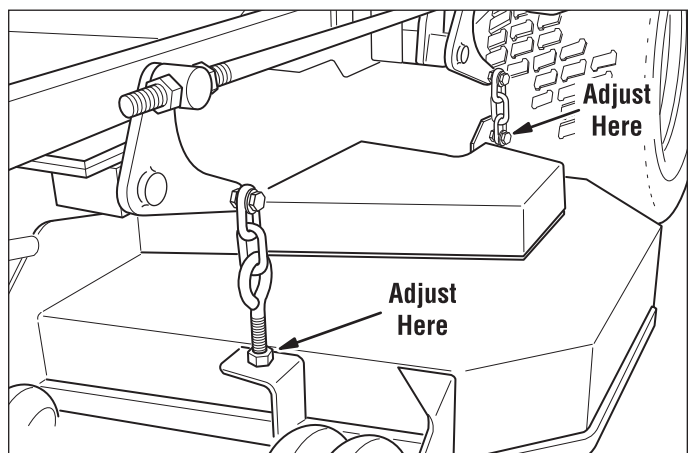

Figure 19. Hanger Chain Adjustment
7. Adjust the front eyebolts until the chains are tight and the deck is still resting on the 2 x 4's. Tighten jam nuts. See Figure 19.
8. Loosen the nuts and allow the rear of the deck to rest on the 2 x 4's and 1/4" spacers. Slide the chains in the slots until the chains are tight and tighten the nuts. See Figure 19.